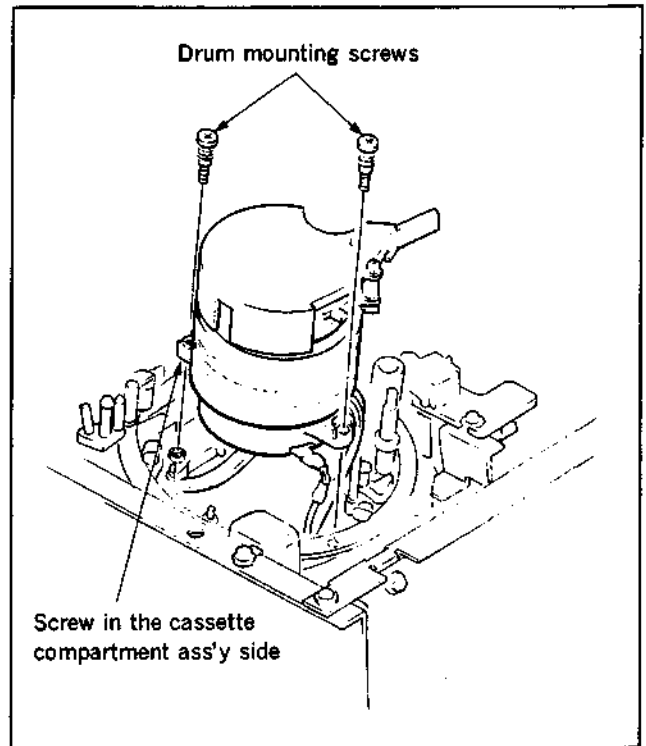

Fig. 4-3-2 Drum ass'y removal
5. **Drum ass'y removal (Fig. 4-3-2)**